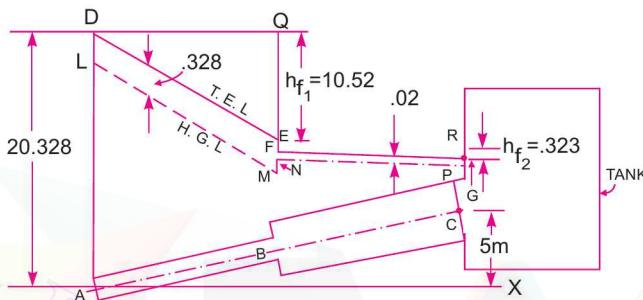

Fig. 11.11
**Total Energy Line.** Draw a horizontal line  $AX$  as shown in Fig. 11.11. The centre-line of the pipe is drawn in such a way that slope of pipe is 1 in 40. Thus the point  $C$  will be at a height of  $\frac{1}{40} \times 200 = 5$  m from the line  $AX$ . Now draw a vertical line  $AD$  equal to total energy at  $A$ , i.e.,  $AD = 20.328$  m. From point  $D$ , draw a horizontal line and from point  $B$ , a vertical line, meeting at  $Q$ . From  $Q$ , take vertical distance  $QE = h_{f_1} = 10.52$  m. Join  $DE$ . From  $E$ , take  $EF = h_e = 0.186$  m. From  $F$ , draw a horizontal line and from  $C$ , a vertical line meeting at  $R$ . From  $R$  take  $RG = h_{f_2} = 0.323$  m. Join  $F$  to  $G$ . Then  $DEFG$  represents the total energy line.